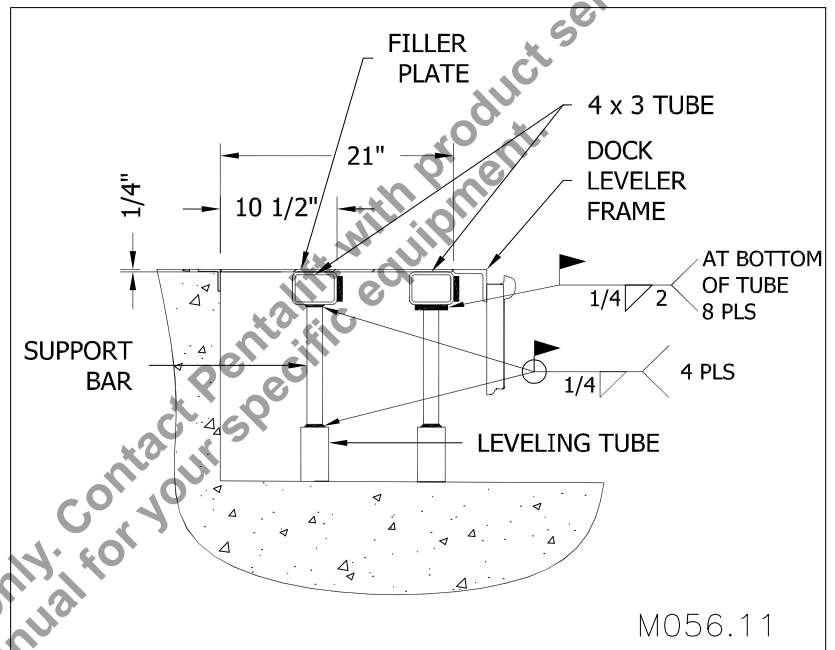

Figure 29: Welding the 4 X 3 Rectangular Tubing to the Curb Angles
4. ___ Slip the levelling tubes over the support bars and lightly tack in place so that it does not fall off while inverting the rectangular tube as indicated in "Figure 29: Welding the 4 X 3 Rectangular Tubing to the Curb Angles" on page 27.
5. ___ Position the 4 X 3 inch rectangular tubes as indicated in "Figure 29: Welding the 4 X 3 Rectangular Tubing to the Curb Angles" on page 27. Make sure the top surface of the rectangular tube is $\frac{1}{4}$ " below the top surface of the curb angle. This will allow the filler plate to be welded flush to the top surface of the curb angle.
6. ___ Weld the ends of the rectangular tubing to the side curb angle as indicated in "Figure 29: Welding the 4 X 3 Rectangular Tubing to the Curb Angles" on page 27. Add vertical welds at the ends of the tube between tube surface and side curb angle surface.
8. ___ Weld the levelling tubes to the support bars using full fillet welds as indicated in "Figure 29: Welding the 4 X 3 Rectangular Tubing to the Curb Angles" on page 27.